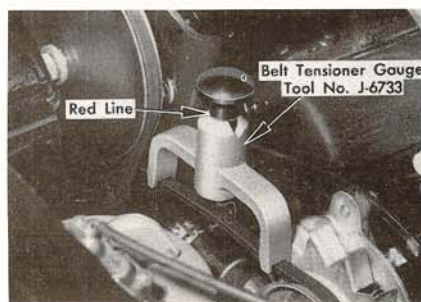

Fig. 5
1. Place Belt Tensioner Gauge on belt as shown in Fig. 5.
2. If the red line does not line up with gauge shoulder, as illustrated in Fig. 5, loosen the belt tension adjusting nuts and tighten or loosen belt until the red line on the barrel of the Gauge is even with the shoulder.